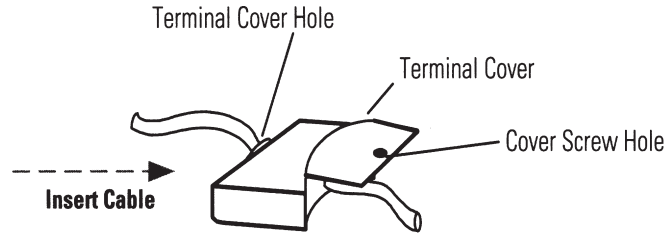

Figure 2.2 Inserting Multi-Conductor Cable
- 3 Insert the end of the multi-conductor cable through the hole in the terminal cover as shown in Figure 2.2.